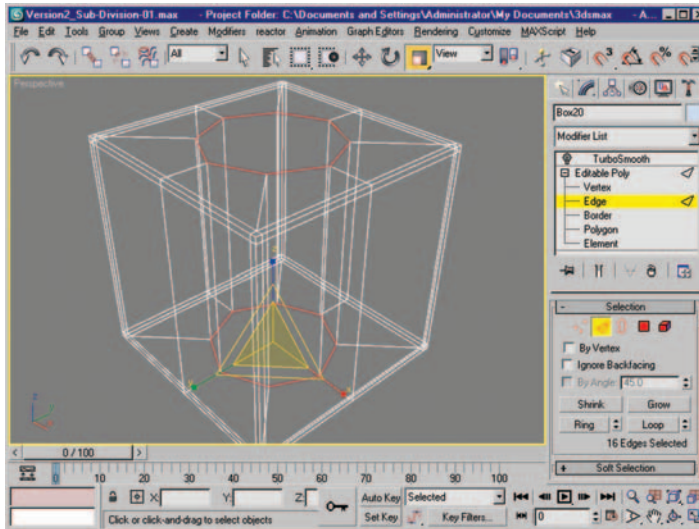

Figure 6.33 Top and bottom edge loops selected in the wireframe perspective viewport.
10. Switch your viewport to Wireframe mode, and select the top and bottom edge loops as shown in Figure 6.33. Select a single edge from each loop and hit Alt+L on your keyboard.